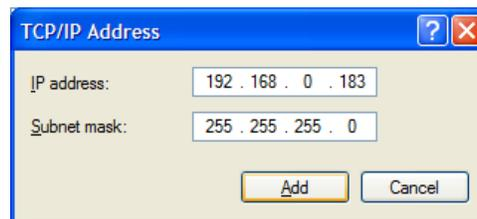

Figure 2-49: TCP/IP Address Window
5. In the *TCP/IP Address* window, enter **192.168.0.183** for the IP address and **255.255.255.0** for the Subnet mask as shown in Figure 2-49. Note that if this is the second E2010 unit in a two E2010 configuration, you must set the IP address to **192.168.0.193** instead.